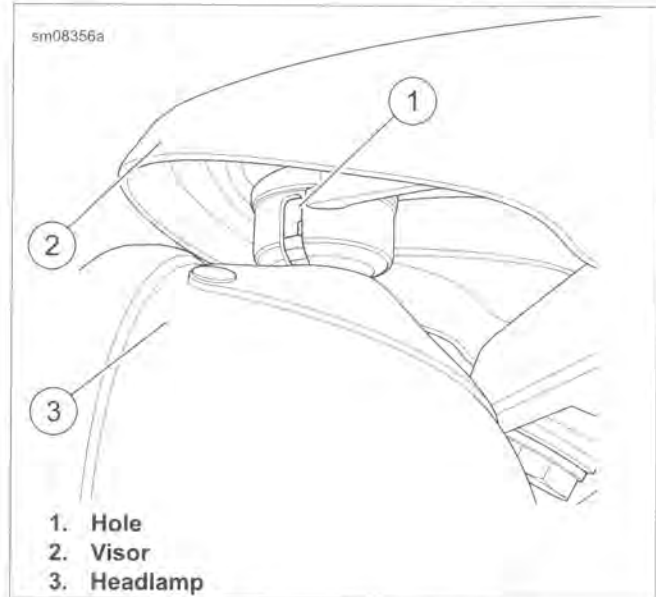

Figure 1-46. Headlamp Visor: FXDL
- a. See Figure 1-46. Insert a small screwdriver through hole (1) on left side under visor (2)